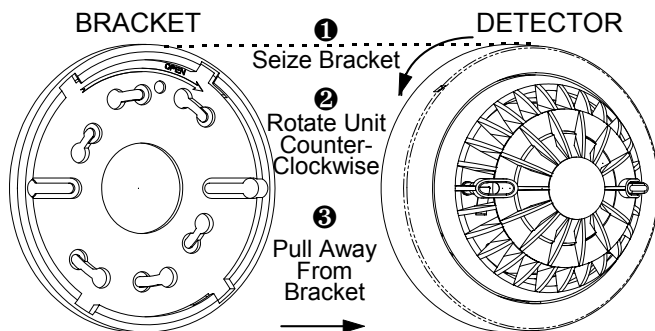

Figure 2. Separating the MCT-425 from its Bracket
Separate the unit from its mounting bracket as shown in Figure 2.
- B. Remove the mounting bracket from your unit by rotating it counterclockwise (see Figure 2).